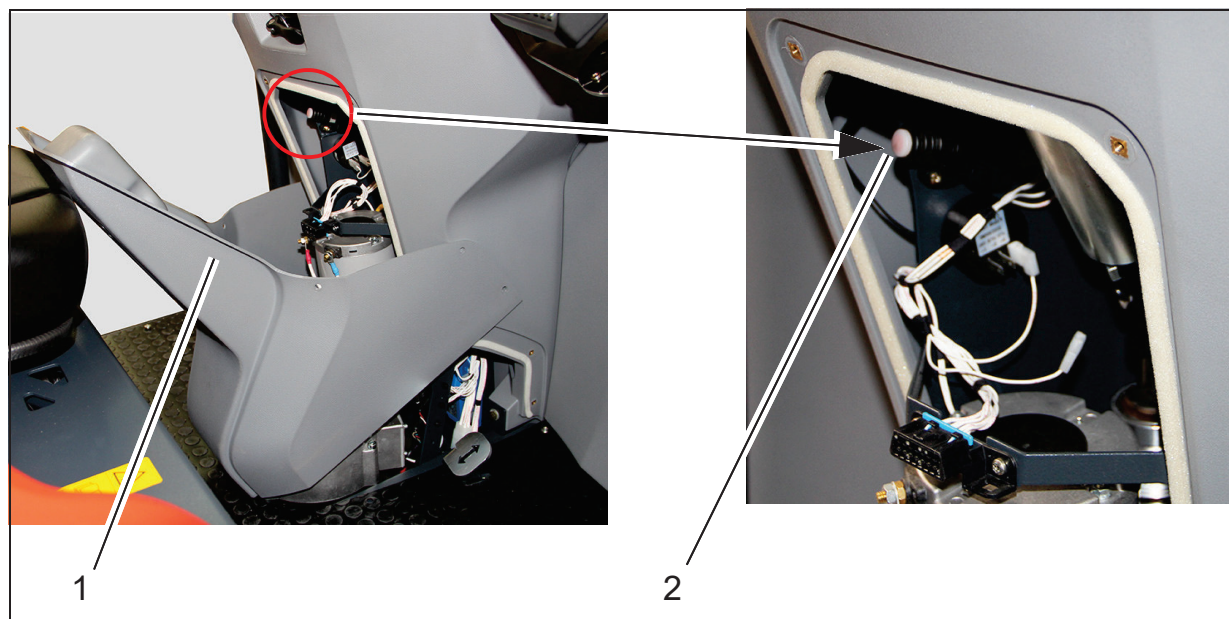

Fig. 7
- Remove the screws from the steering column cover and fold the upper part of the cover backwards (Fig. 7/1).
- Press the *Unlock brake* button (Fig. 7/2) and tow away.Keep the *Unlock brake* button pressed during the towing process!